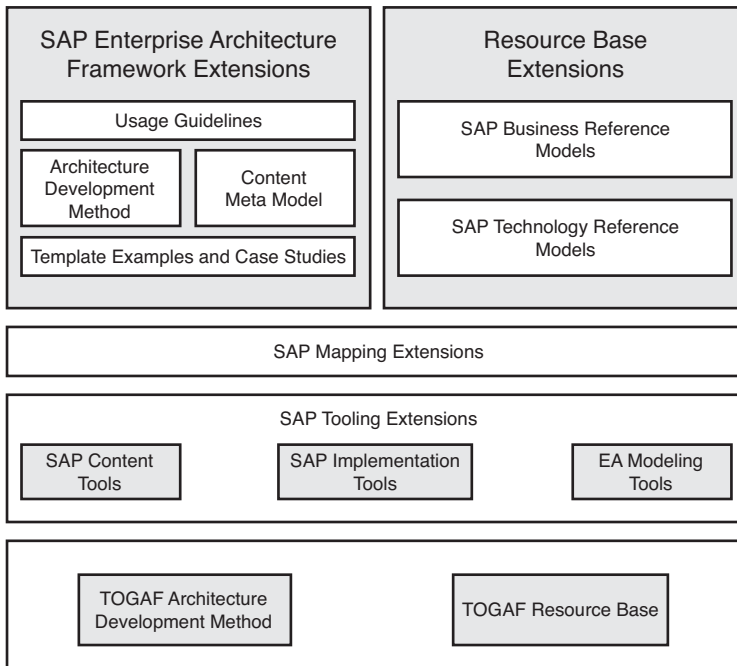

FIGURE 2.4 SAP Enterprise Architecture Framework for an enterprise SOA.
Organizations looking to incorporate a service-oriented architecture (SOA) and reap its benefits need a master plan that bridges the business processes with the required underpinning technology. We call this master plan the enterprise architecture (EA). You can refer to either The Open Architecture Group Framework (TOGAF) or the SAP Enterprise Architecture Framework (SAP EAF) to develop your own EA that is relevant for your organization. Every EA you develop will have four conceptual layers: Business, Data, Application, and Technical Infrastructure. You must define these layers clearly early on to avoid potential issues at later stages of the implementation. If you fail to do so, the quality of your EA will suffer, especially in terms of incorporating standards within your organization. Figure 2.4 illustrates how the SAP EAF marries with enterprise SOA.